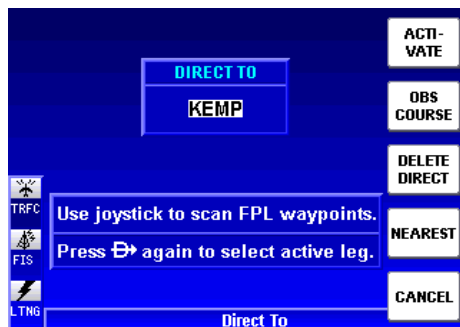

Figure 1-151
1. Press the **Direct-To** Key to display Figure 1-151.